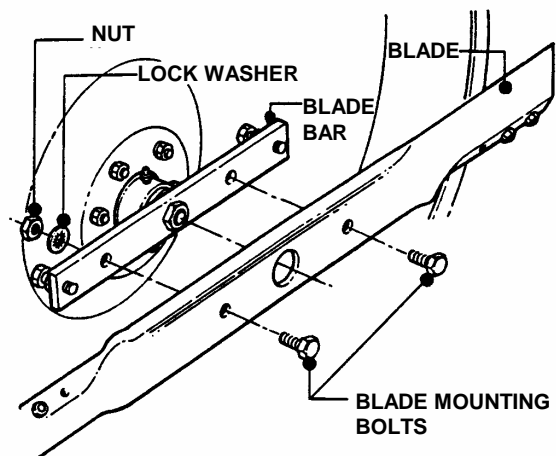

FIGURE 4.21
5. Remove blade mounting bolts, nuts and washers. See Figure 4.21.